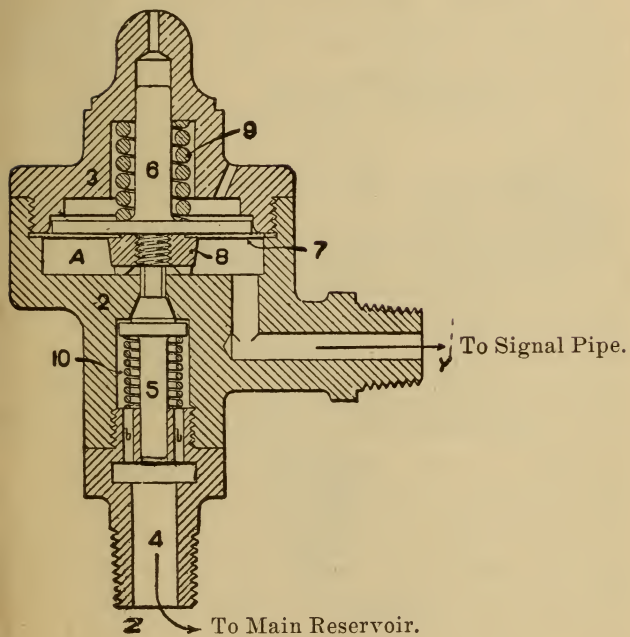

Fig. 46.
A. This form of valve is shown by Fig. 46. Spring 9 is adjusted to the required whistle train line pressure, its tension forcing downward upon diaphragm 7, which in turn forces the supply valve off its seat, permitting main reservoir pressure to enter at Z, pass through the chamber A and out at Y into the signal line. When the pressure in cavity A is sufficient to compress the spring 9, then spring 10 will force valve 5 onto its seat and thereby cut off main reservoir pressure. When the whistle signal line is reduced the tension of spring 9 will again unseat valve 5 and admit main reservoir pressure.